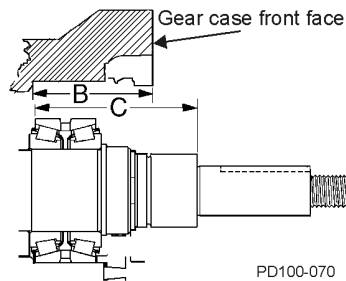
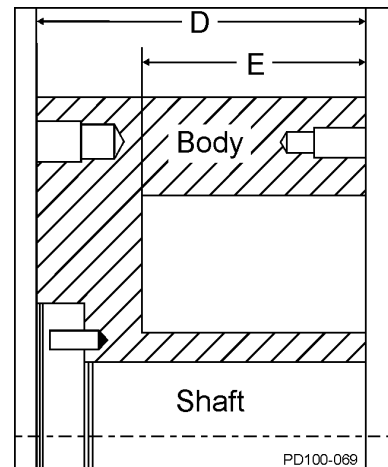

Figure 52 - Measure B and C
Figure 53 - Measure D and E
4. **If it is necessary to calculate the required shims for replacement shafts, bearings or both,** refer to Figure 52 and Figure 53; carry measurements and calculations to three decimal places (i.e. .059).
- Measure “B” in the gear case and “C” on the shaft (Figure 52).
- Measure “D” and “E” on the body (Figure 53).
Table 5: Callout table for Figure 52 and Figure 53